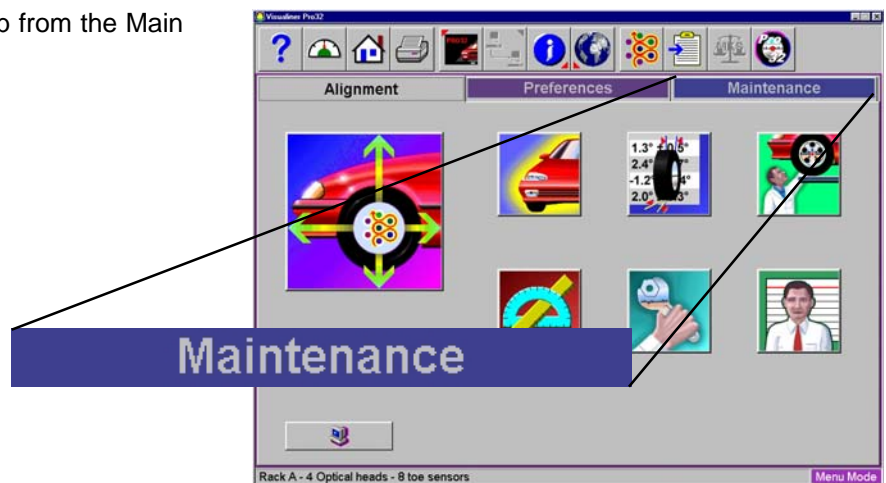

Figure 3-17
- Choose the <Maintenance> tab from the Main Menu. (Figure 3-17)